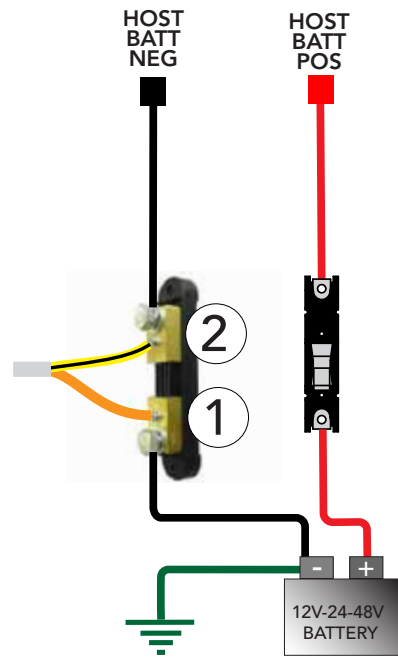

Figure 5-1. Negative Leg Shunt
Step 2. Install the shunt(s) on the circuit(s) to be measured, as seen in Figures 5-1 or 5-2, below. When installing more than one shunt in a system, wire all shunts with the same polarity.
Step 3(A) or (B). Shunt to ReadyShunt Wiring**A. Negative Leg Installation** (see Figure 5-1 below).